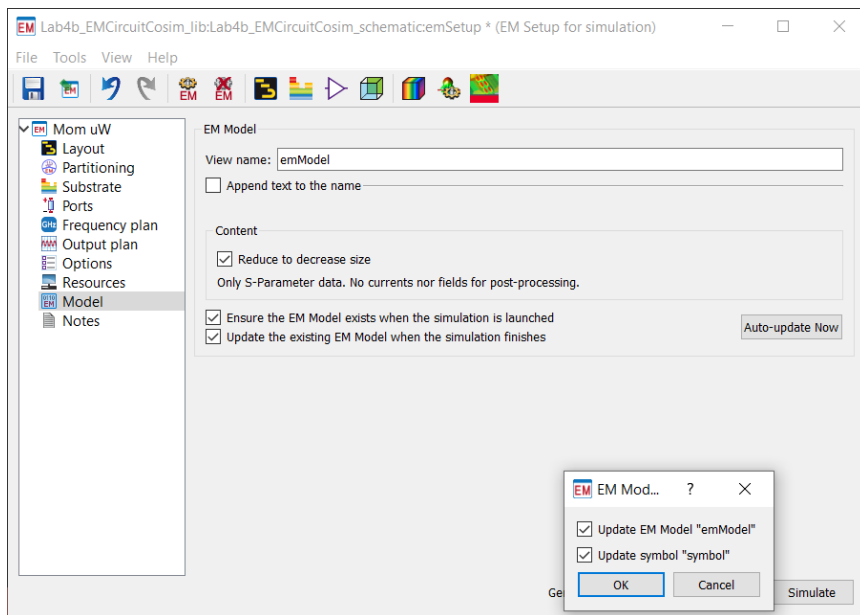

Figure 39. Creating the emModel and symbol
1. To set up EM/circuit co-simulation, a model will need to be created. Go to **EM > Component > Create EM Model and Symbol**. Select both options and press **OK**. This is shown in Figure 39.